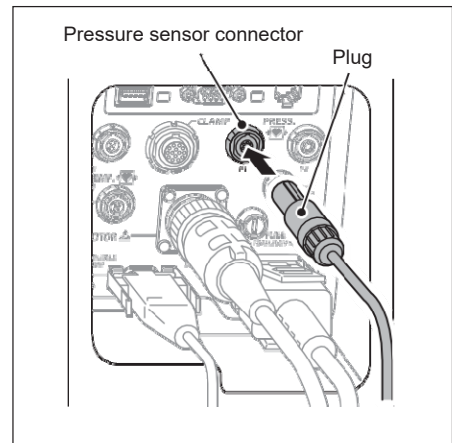

Figure 1-17
1. **Align the plug of the Pressure Sensor Cable with the slot of the pressure sensor connector on the rear panel, and insert the plug into the connector (P1 or P2). (Figure 1-17)**